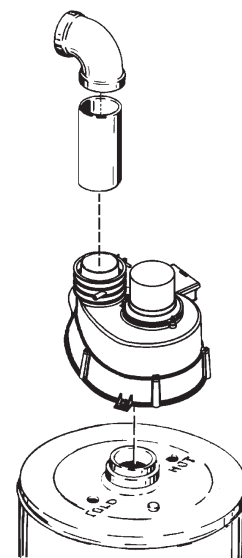

FIGURE 15. BLOWER ASSEMBLY
For your convenience instructions on proper installation through a sidewall are provided in Figure 15 and the numbered points below:
5. The blower discharge boot is made to accept only straight sections of 3" pipe. To start off with an elbow, a short section of the furnished pipe, a minimum of 2 inches, must be cut and glued into the end of the elbow that will mount on the discharge boot, see Figure 15.